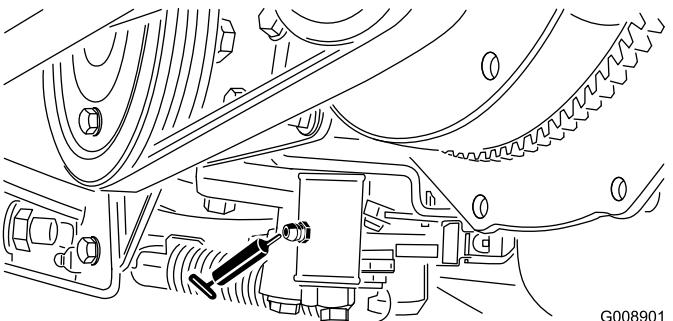

Figure 51
- Neutral adjust mechanism (Figure 51)